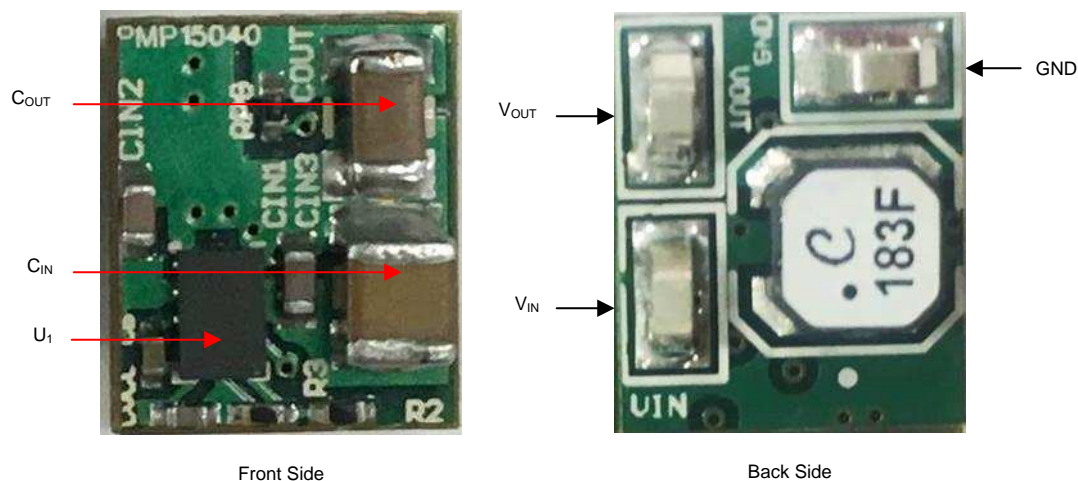

図 14. PMP15040 Board Setup
1. Connect a DC power supply to the board input as shown in Figure 14.
2. Connect an electronic or resistive load to the LMR36006 output (V_{OUT}), as shown in Figure 14, to imitate the typical load.